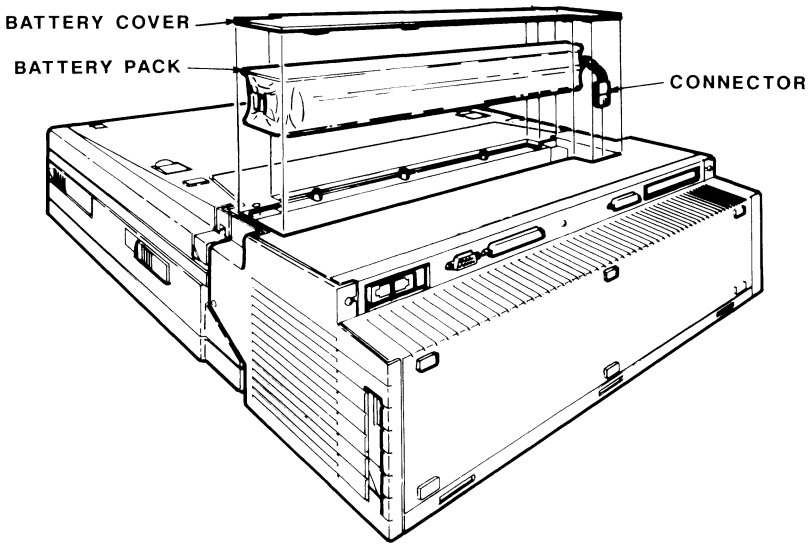

Figure 3-1. Battery Pack Installation
1. Loosen the three screws and remove the battery pack cover, as shown in Figure 3-1. Set it to one side.